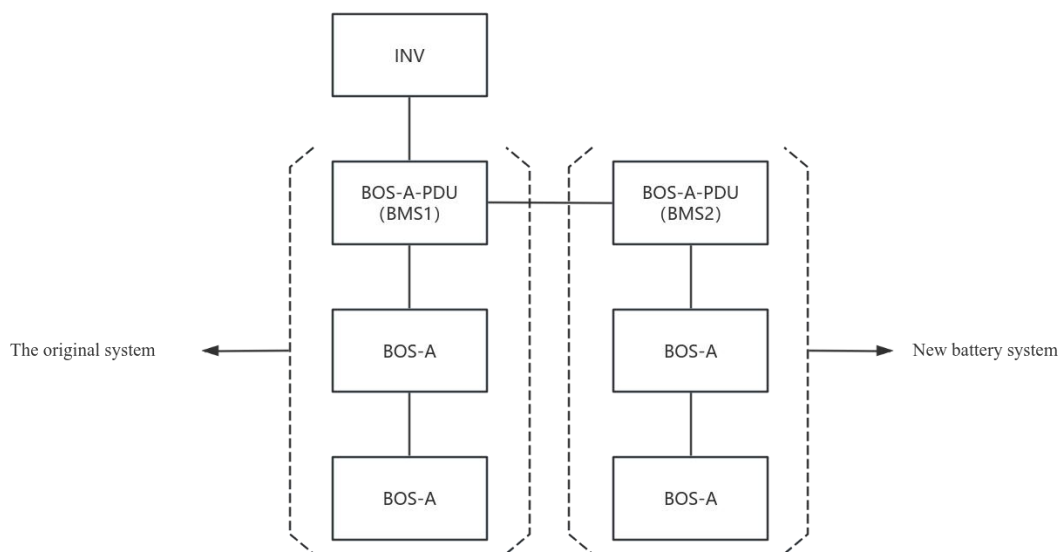

Figure2 Network diagram
Step 1: Verify the battery serial number (SN). If the manufacturing date difference between the new and old batteries is within two years, capacity extension is allowed.
Step 5: Please attach a terminal resistance to the out port of the last HV box when confronting a parallel communication issue. (The last HV box is BOS-A-PDU(BMS2) as figure 2)